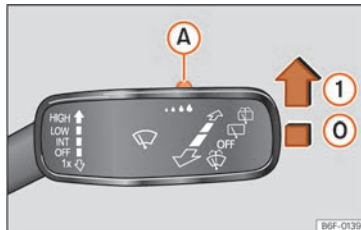

Fig. 78 Windscreen wipers lever: adjust the rain sensor (A).
Push the lever to the desired position >>> Fig. 78.
- ① Rain sensor on; automatic wipe if necessary.
When the ignition is switched off and then back on, the rain sensor stays on and starts operating again when the windscreen wipers are in position >>> Fig. 78 ① and the vehicle is travelling at more than 16 km/h (10 mph).